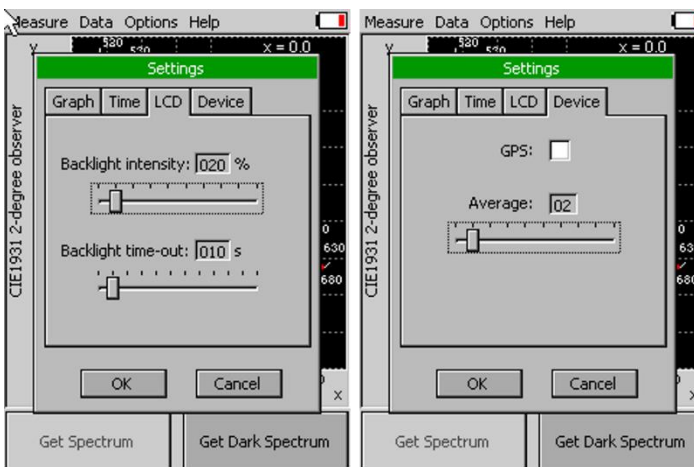

Fig. 12 A) LCD settings B) Device settings.
- **LCD** – is used to adjust LCD display control settings (Fig. 12-A)
- **Device** (Fig. 12-B)